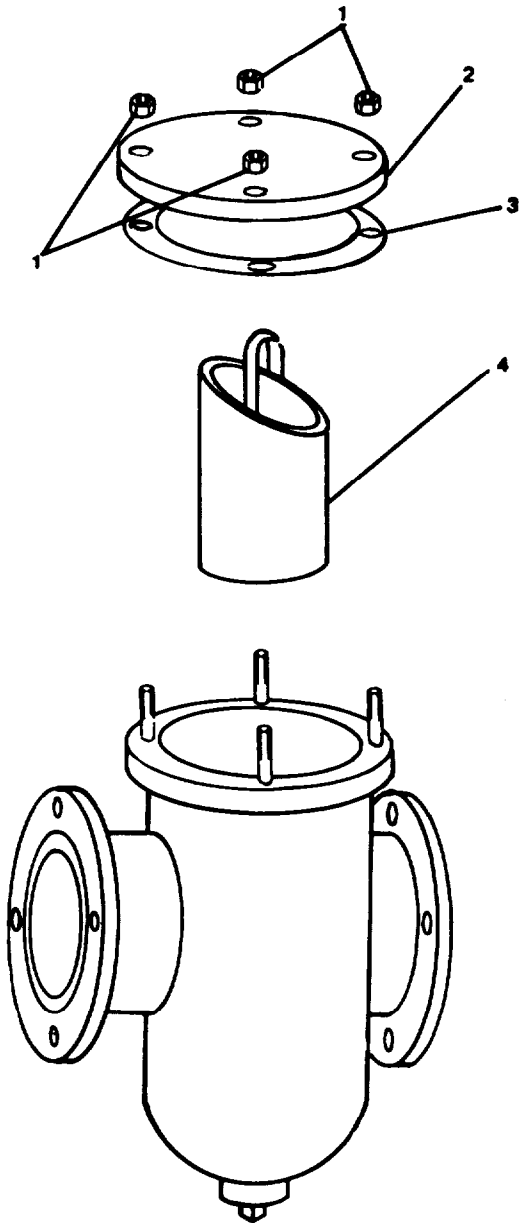

FIGURE 2-243. 4-Inch Sediment Strainer Basket, Repair.
- a. Remove hexagon nuts (1, FIGURE 2-243).
- b. Remove cover (2) and gasket (3).
- c. Remove strainer sediment element (4).
- a. Install strainer sediment element (4) (FIGURE 2-243).
- b. Install gasket (3) and cover (2).
- c. Install hexagon nuts (1) and torque to 75 ft-lb (102 N•m).